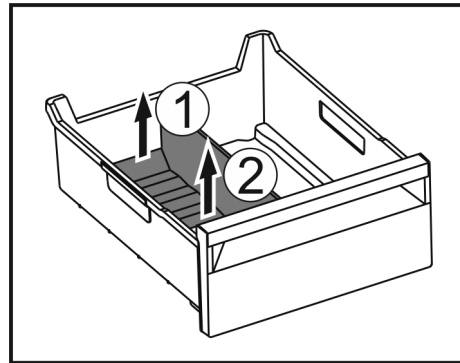

Fig. 175
- Lift the rear part of the ice compartment divider. Fig. 175 (1)
- Remove the ice compartment divider upwards. Fig. 175 (2)